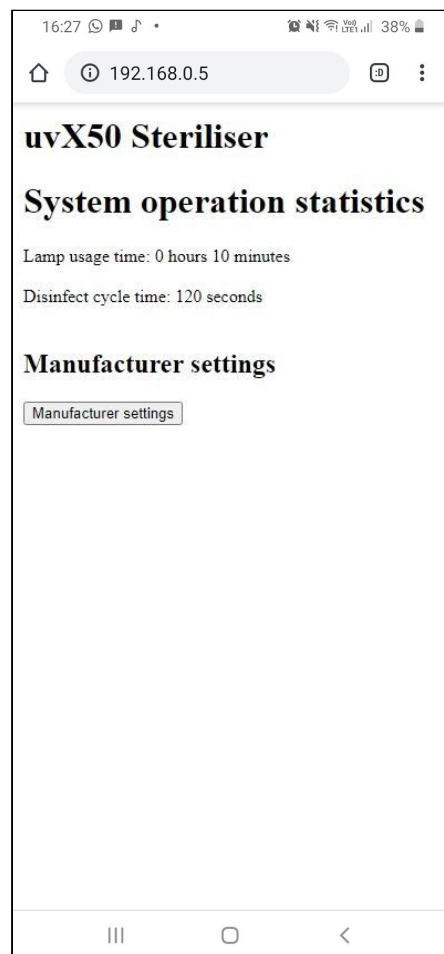

Figure 4: Lamp usage information page on a web browser
8. Enter "192.168.0.5" in the address bar to connect to the lamp usage tracker. See figure 4.